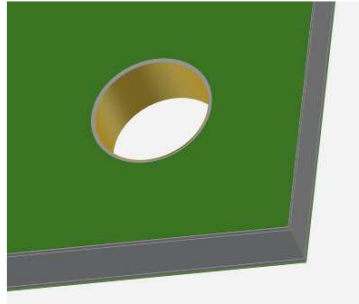

Fig. 3. One of the most common definition error of NPTH pad: checked option "Plated" for hole.
**TIP #4** Avoid the two most definition errors for NPTH holes: checked option “Plated” (see Fig. 3.) and “copper pad size > 0”.